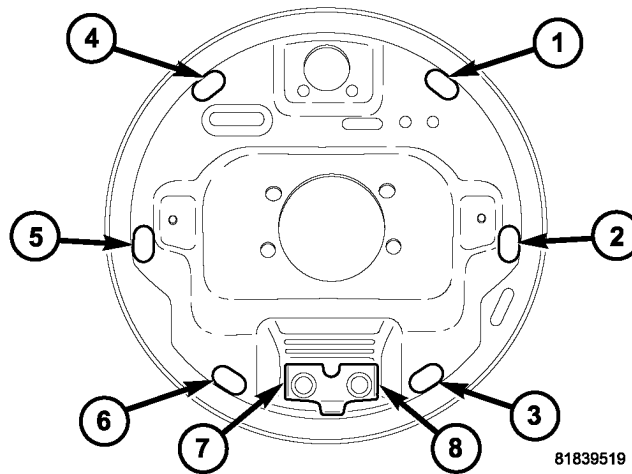

Fig. 3 BRAKE LUBRICANT APPLICATION POINTS
15. Apply the brake lubricant, p/n 04796269, on the backing plate pads and abutments in the 8 locations shown (Fig. 3).